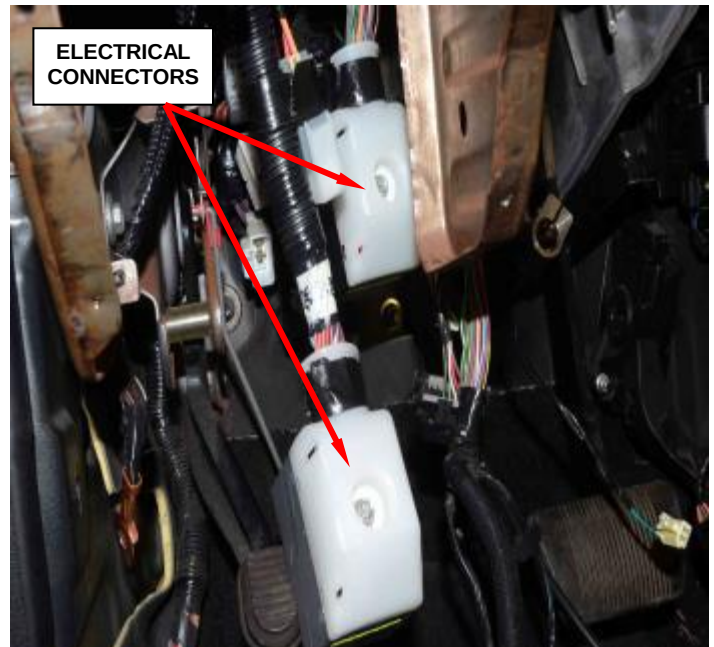

Figure 134 – Electrical Connectors
12. Disconnect the wiring harness electrical connectors from the column (Figure 134).
- a. Disconnect the accelerator position sensor electrical connector (Figure 134).